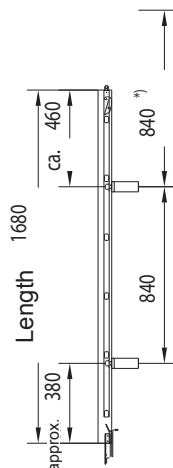

Fig. 12
a) Support ring with guide for bolting on (Fig. 12)